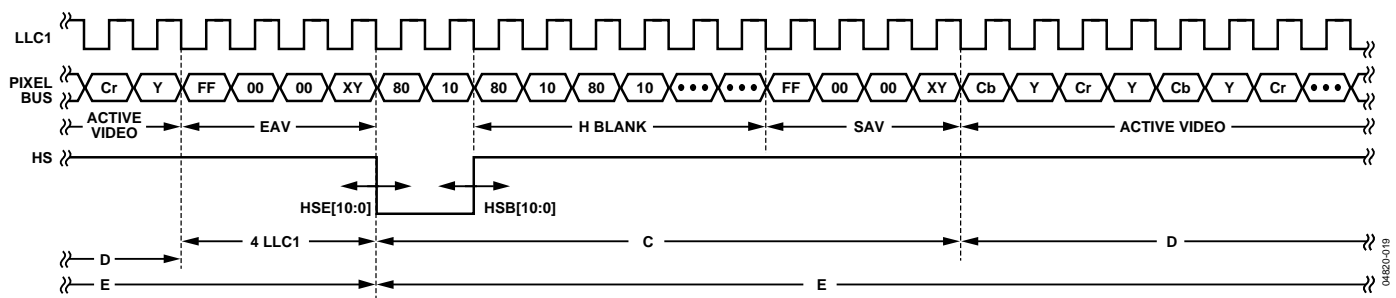

Figure 19. HS Timing
The position of this edge is controlled by placing a binary number into HSB[10:0]. The number applied offsets the edge with respect to an internal counter that is reset to 0 immediately after EAV code FF,00,00,XY (see Figure 19). HSB is set to 00000000010b, which is 2 LLC1 clock cycles from count[0].
**Table 99. HS Timing Parameters (see Figure 19)**
| Standard          | HS Begin Adjust (HSB[10:0]) 1 | HS End Adjust (HSE[10:0]) 1 | HS to Active Video (LLC1 Clock Cycles) (C in Figure 19) 1 | Active Video Samples/Line (D in Figure 19) | Total LLC1 Clock Cycles (E in Figure 19) |
The position of this edge is controlled by placing a binary number into HSE[10:0]. The number applied offsets the edge with respect to an internal counter that is reset to 0 immediately after EAV code FF,00,00,XY (see Figure 19). HSE is set to 00000000000b, which is 0 LLC1 clock cycles from count[0].